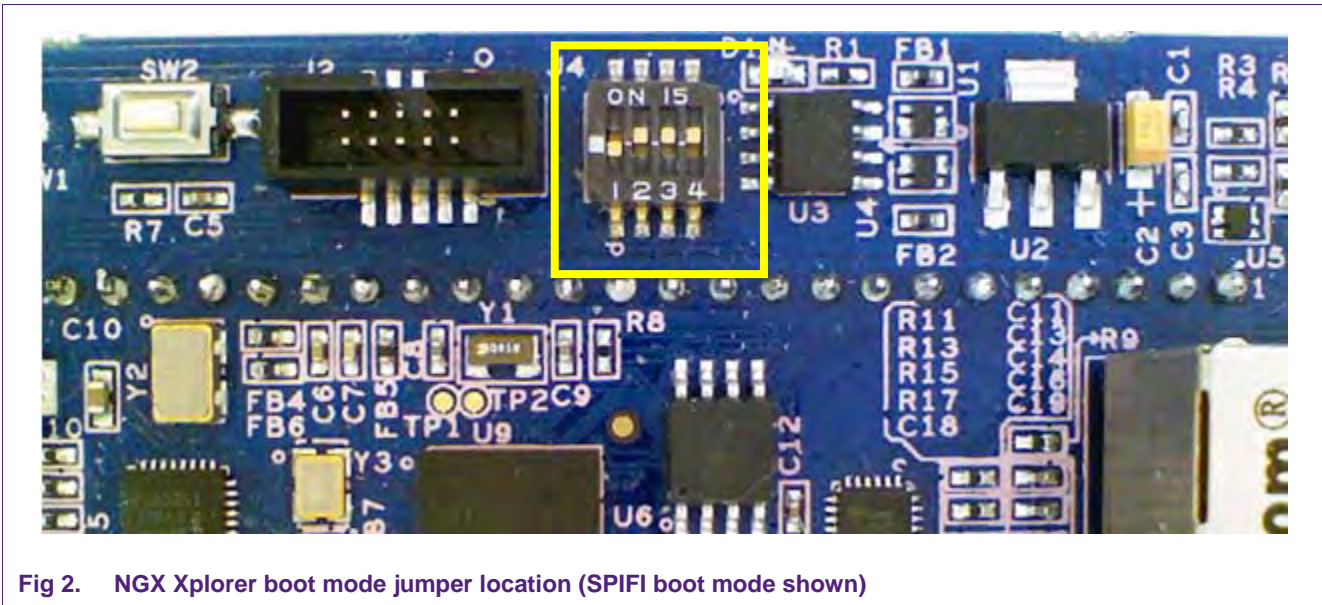

Fig 2. NGX Xplorer boot mode jumper location (SPIFI boot mode shown)
- Fig 2. NGX Xplorer boot mode jumper location (SPIFI boot mode shown)5